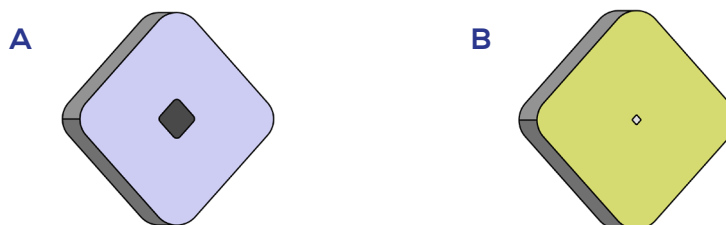

Figure 6. Chip faces. A) Cavity side; B) Aperture side.
3. Identify the cavity side of the chip, shown in Figure 6 below. The cavity side has a visibly larger hole.